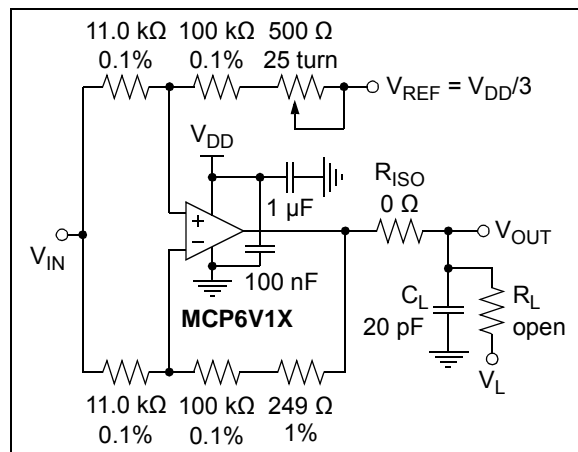

FIGURE 1-6: Test Circuit for Dynamic Input Behavior.
- Note 1:** These parameters were characterized using the circuit in Figure 1-6. In Figure 2-36 and Figure 2-37, there is an IMD tone at DC, a residual tone at 1 kHz and other IMD tones and clock tones.
The circuit in Figure 1-6 tests the input's dynamic behavior (i.e., IMD, t_{STR} , t_{STL} and t_{ODR}). The potentiometer balances the resistor network (V_{OUT} should equal V_{REF} at DC). The op amp's common mode input voltage is $V_{CM} = V_{IN}/2$. The error at the input (V_{ERR}) appears at V_{OUT} with a noise gain of 10 V/V.